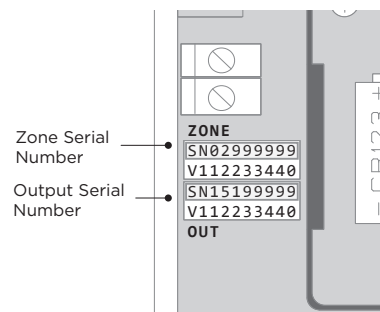

Figure 1: Zone and Output Serial Number Location
4. At **SERIAL#**, enter the 8-digit device serial number that starts with **15**. Refer to Figure 1.
7. Enter the eight-digit **SERIAL#** that starts with **02**. Refer to Figure 1.